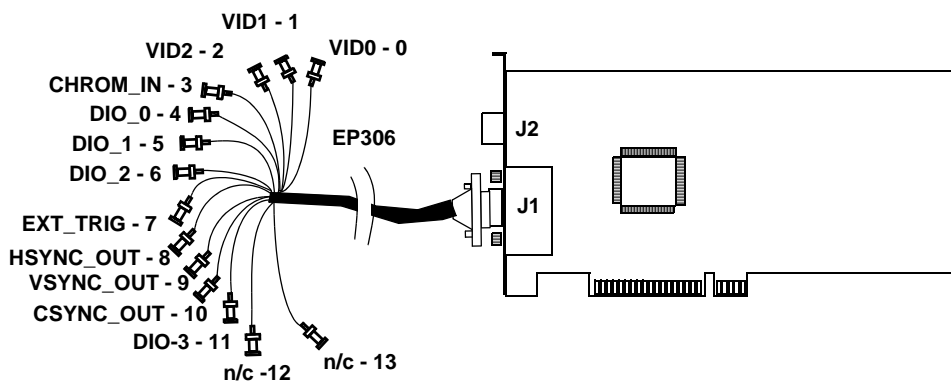

Figure 4: Connecting the EP306 Cable to Connector J1
1. After making sure power to the computer is off, push the 15-pin connector of the EP306 cable into the J1 socket at the rear of the DT3153, as shown in Figure 4, and tighten the screws on the connector.